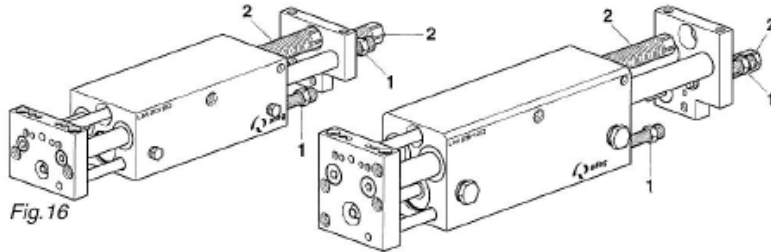

Fig. 16
(Fig. 16) **Linear module LM 20 /25**; Standard equipment includes two stop screws AS 08/40 (1) and two shock absorbers SD 14/16 (2) to end setting.